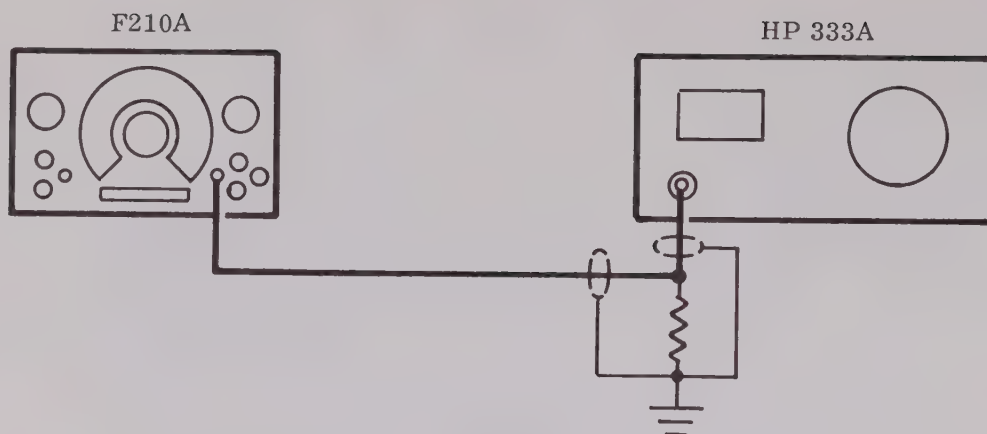

FIGURE 3-8
2. Interconnect the equipment as shown in Figure 3-8, observing signal and ground connections carefully.